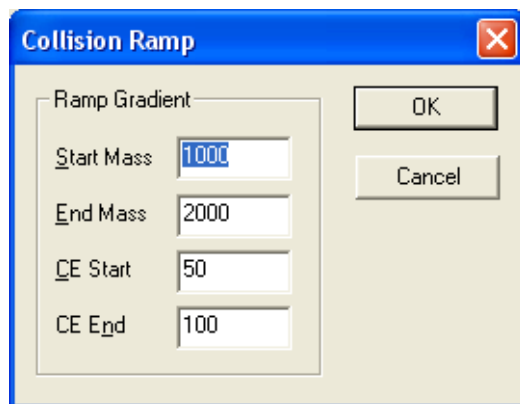

Figure 5-14 Collision Ramp Dialog Box
2. Click CE Ramp to open the Collision Ramp dialog box (Figure 5-14).